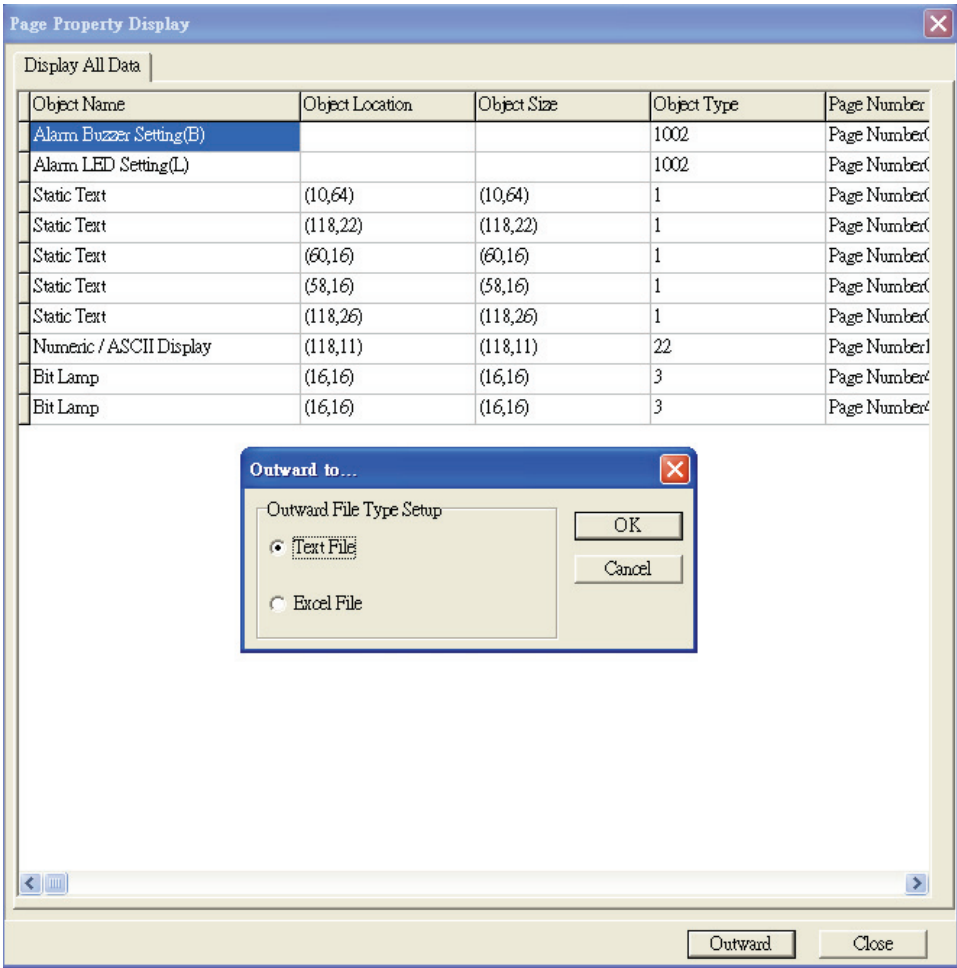

Figure 1-41
Step 3. Select the file type, text file (*.txt) or Excel file (*.xls) (Figure 1-41).